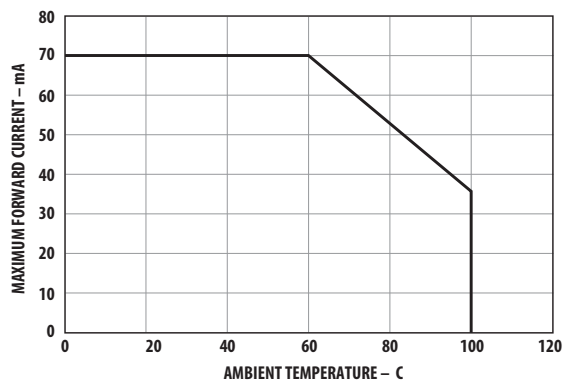

Figure 4. Maximum forward current vs. ambient temperature. Derated based on $T_{jMAX} = 125^{\circ}C$, $R_{\theta JA} = 300^{\circ}C/W$
- Derate linearly as shown in figure 4.